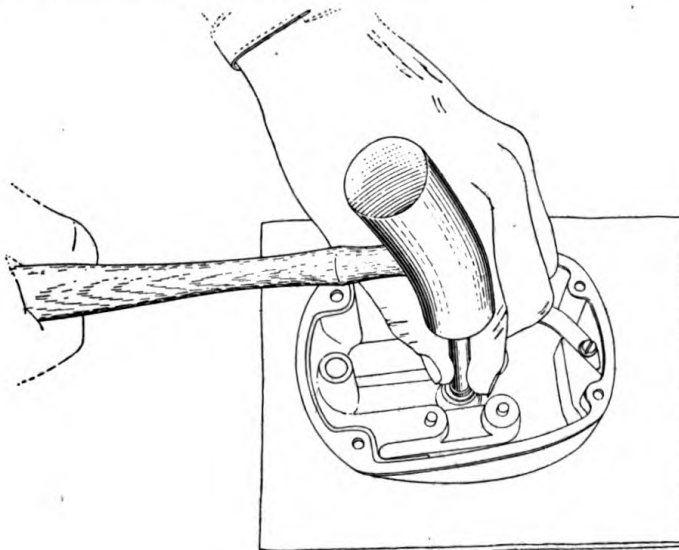

Fig. 56
51. Be sure distributor cap gasket is not broken, brushes are free, and center brush is not worn down below brass retainer. If center brush needs replacing, remove old brush and reassemble new brush using tool No. 27 as shown in Fig. 56.